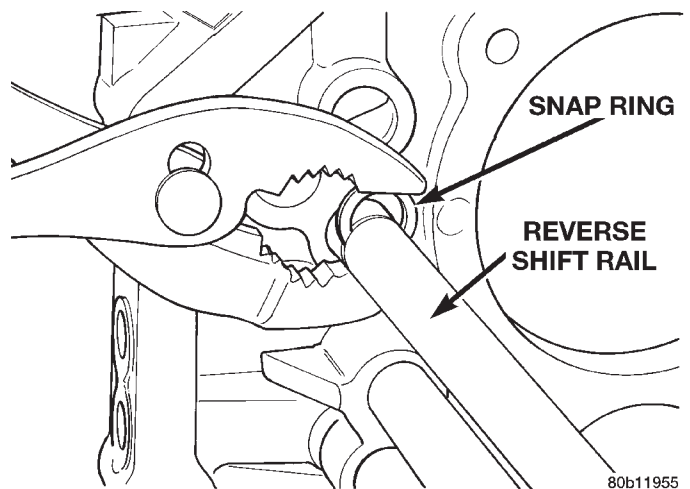
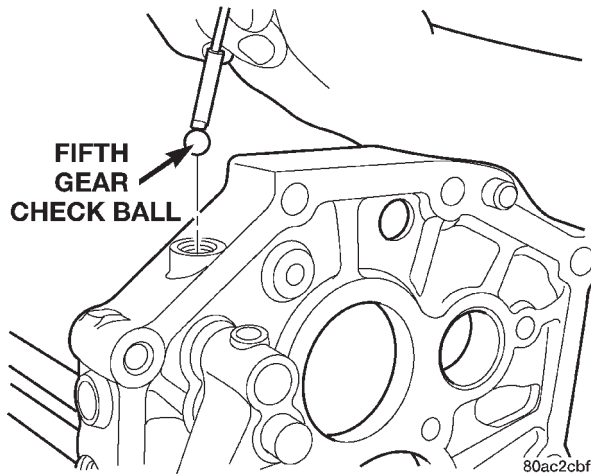

Fig. 82 Install Reverse Snap-ring
Fig. 83 Install Fifth Gear Check Ball
(10) Install snap-ring onto reverse shift rail (Fig. 82).
(11) Install reverse shift head and rail assembly into the intermediate plate.
(12) Install the fifth gear interlock ball and check ball (Fig. 83).